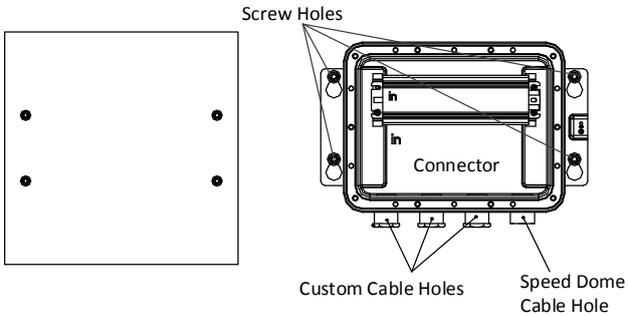

Figure 2-12 Install the Gang Box Type I
1) Drill 4 φ9 screw holes for expansion screws as shown in Figure 2-12.